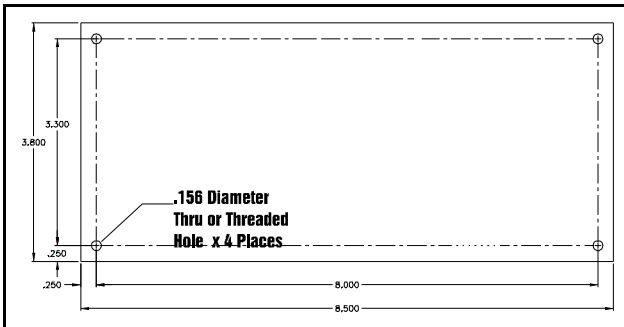

FIG. 3-2 HOLE DIAGRAM
- Step 2. Drill four thru holes or threaded holes for four 6-32 pan head machine screws. (See Fig. 3-2)